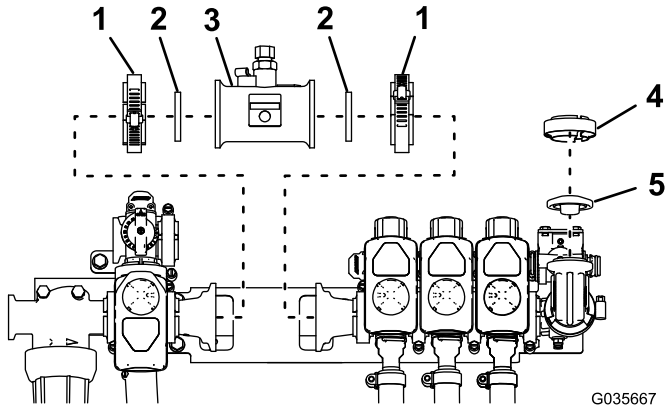

Figure 1
3. Loosen the worm clamps that secures the manifold coupler to the agitation valve and section valve assembly (Figure 1).
4. Remove the clamps, gaskets, and manifold coupler (Figure 1).
5. Install the flow meter and 2 flow meter gaskets using the clamps that you just removed (Figure 1).
6. Remove the transducer clamp, cap, and gasket (Figure 1).